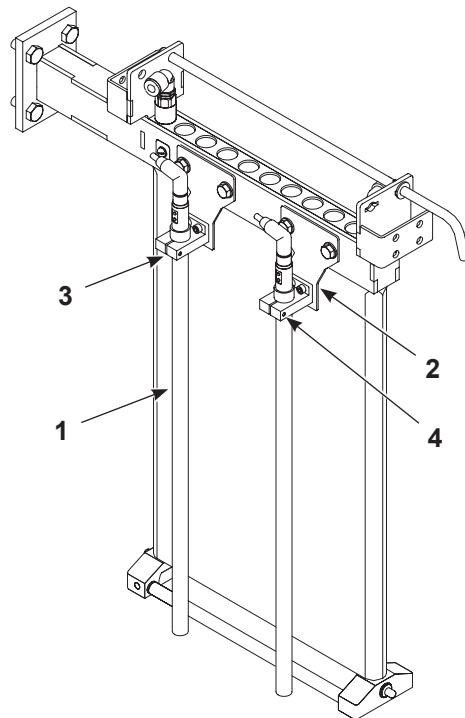

Figure 2-6 Level Sensor Modules
See Figure 2-6. To adjust the position of each level sensor for the application, loosen the clamp screw (4) with a hex key.